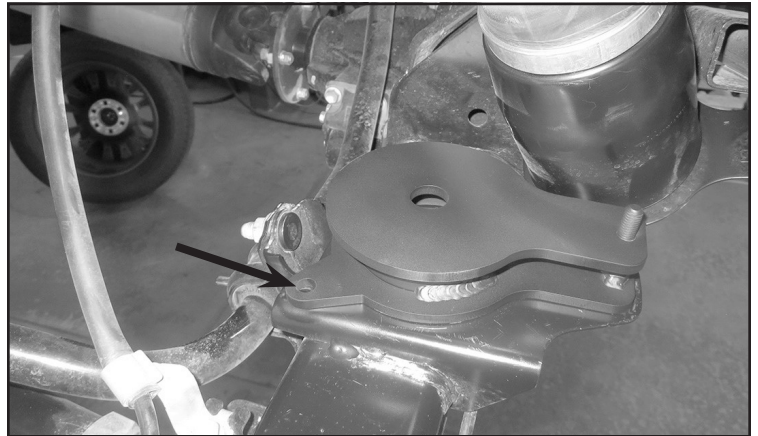

FIGURE 19 - STEP 24
24. Place FT70311 (Driver spacer) onto the axle mount by inserting the threaded stud through the hole just drilled. Mark and drill the forward hole to 7/16". **SEE FIGURE 19**